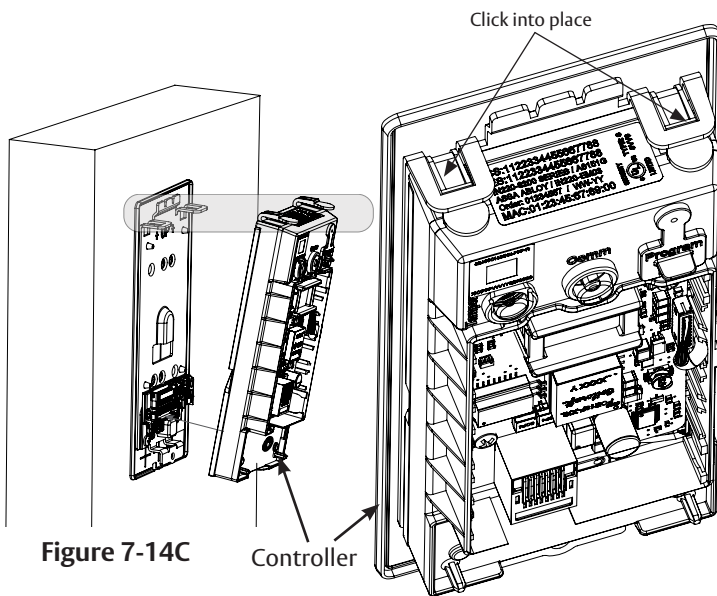

Figure 7-14D
2. Ensure proper alignment of board-to-board connectors while pivoting controller toward door until two tabs on top click securely into place on mounting plate. (Figure 7-14D)